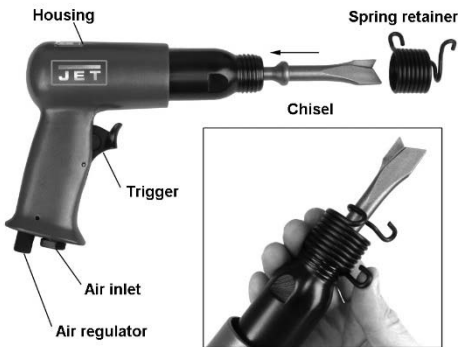

Figure 1
1. Insert chisel shank into cylinder of air hammer. Slide spring retainer over chisel and screw it all the way onto cylinder; use rear tab for leverage. Make sure front coil of spring surrounds chisel (inset, Figure 1).
3. Remove protective cap from air inlet (Figure 1). If an in-line oiler is not being used, add 4 or 5 drops of air tool oil (not included) into the air inlet.
2. Place 4 or 5 drops of air tool oil into air inlet (Figure 1).